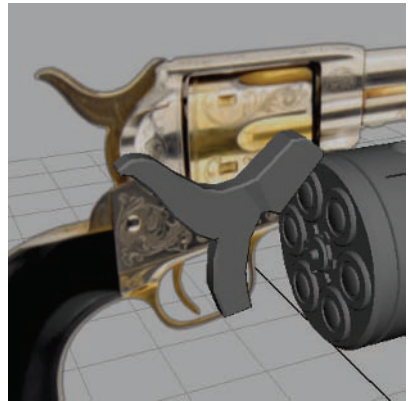

Figure 3.14
6. With these cuts in place, you can adjust the head of the hammer's vertices, widening it. You should have something like in Figure 3.14. You'll return to the head later, but for now, you can move on to the grip.